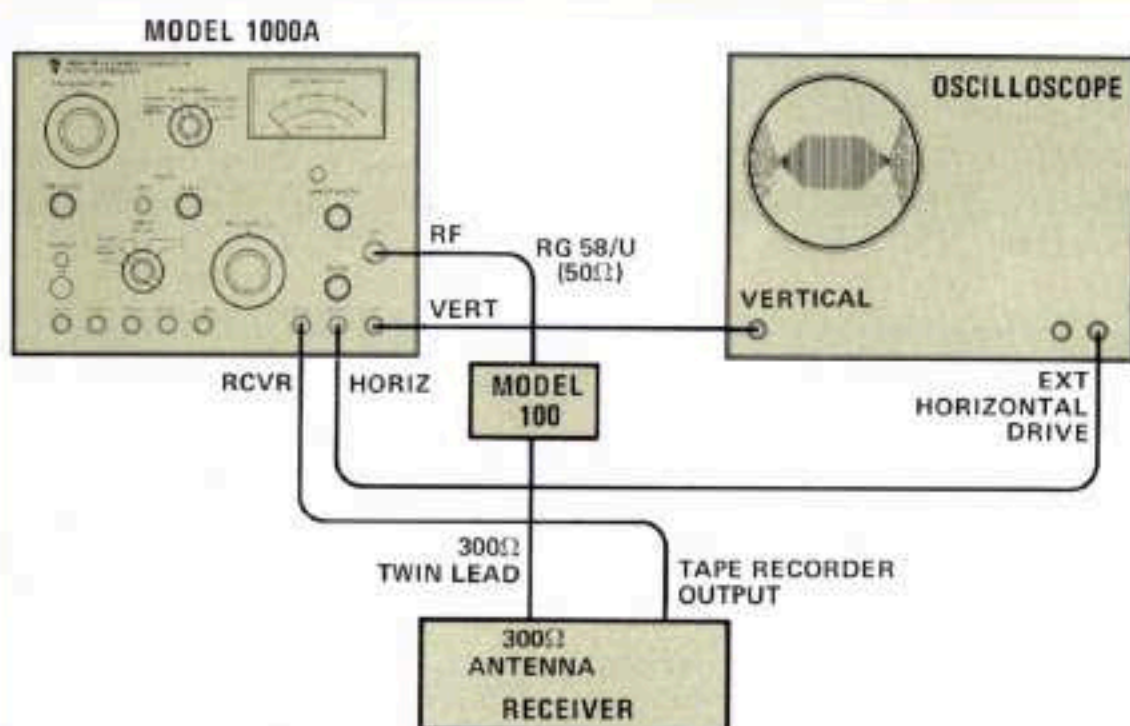
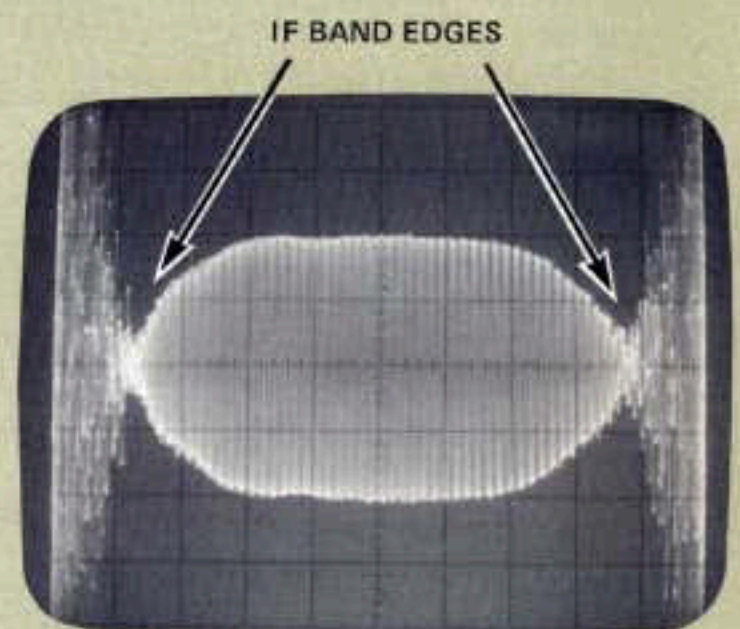

Figure 2. Discriminator Alignment
Figure 5.
Connect the equipment as shown in Figure 2, and set the 1000A and receiver controls as described in the Alignment Chart, Step 5. Tune the 1000A to obtain the scope pattern shown in Figure 5.
4. For receivers with fixed-tuned IF's, adjust the 1000A FREQUENCY so the IF center frequency corresponds with the center of the scope sweep display. The DUAL SWEEP pattern will fall to zero at the edges of the IF bandpass (Figure 5). Fine tune the 1000A until the middle portion of the DUAL SWEEP pattern is centered on the scope. Leave the 1000A tuned to this frequency while adjusting the discriminator and peak-tuning meter. If the discriminator is badly misaligned, some preliminary adjustment may be required while finding the IF center frequency.